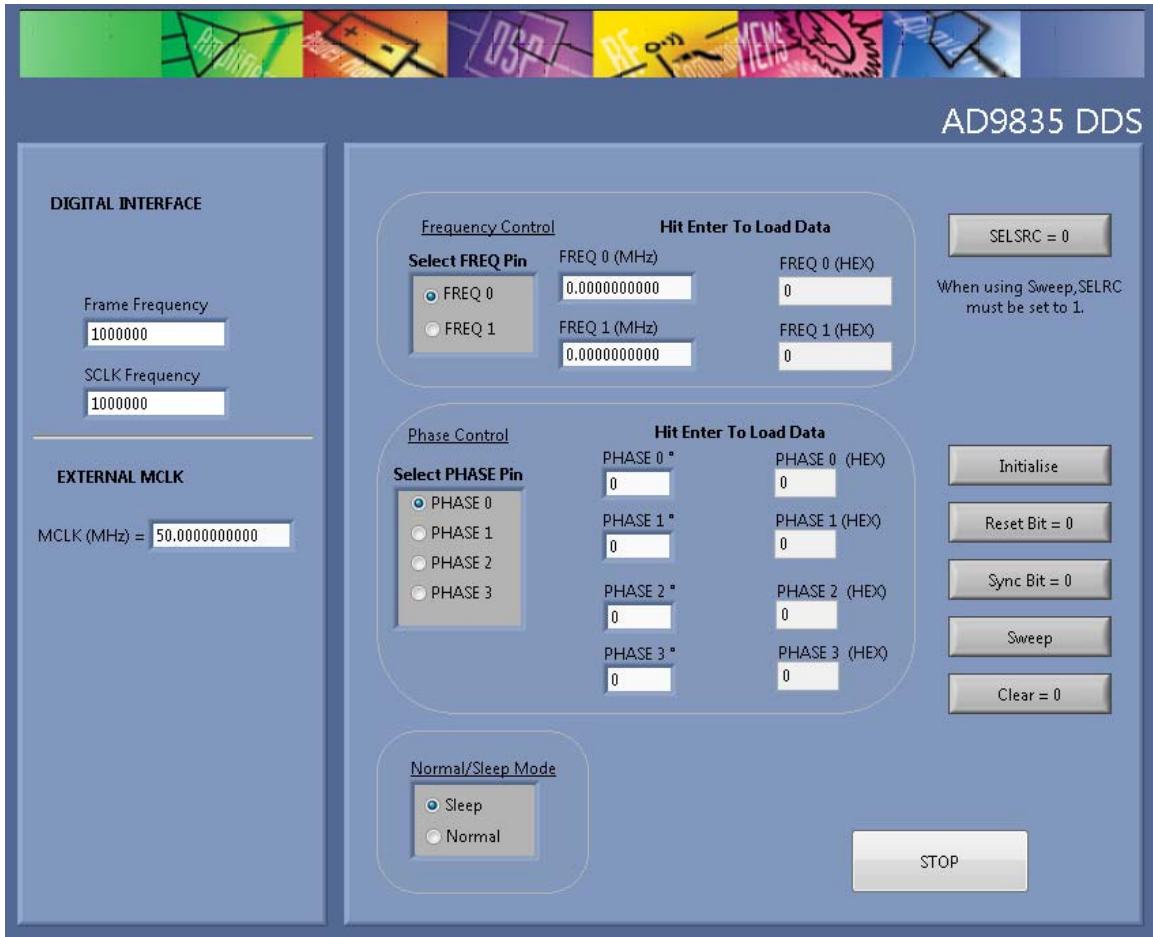

Figure 4. AD9835 Evaluation Board Software
3. Ensure that all links are in their correct locations (see Table 1). The main window of the AD9835 evaluation software then opens, as shown in Figure 4.
The first step in setting up the AD9835 to take measurements is to set the **DIGITAL INTERFACE** in the software window (see Figure 4).